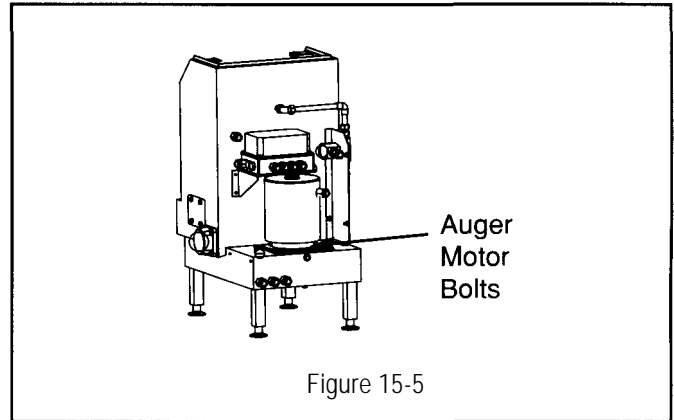

Figure 15-5
11. Remove four bolts and washers securing auger motor to bracket (see figure 15-5).